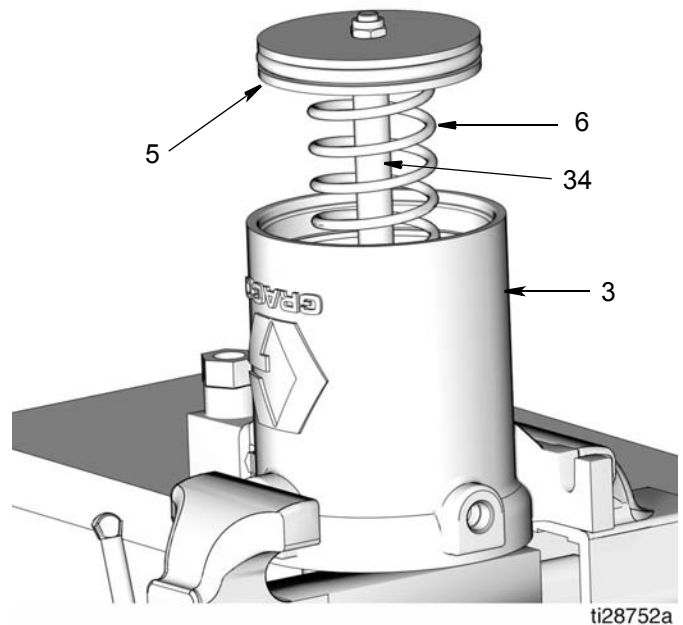

FIG. 21
NOTE: There is a spring (6) (FIG. 21) inside the air motor cylinder (3) under the piston (5). Hold your hand on the cover (1) for resistance and to hold it down while loosening the cover screws (1a) (FIG. 21).
20. Piston Rod O-Ring (36) and Piston Seal (4)
- Remove piston rod (34) and piston (5) and spring (6) from air motor cylinder (3) (FIG. 21).